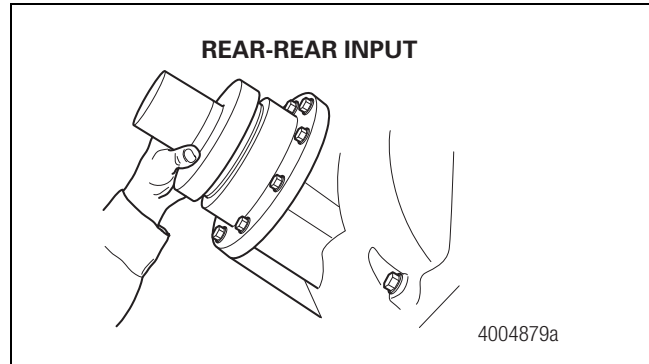

Figure 9
5. Install the rear-rear axle input seal. Hold the seal only on the outer diameter. Position the seal into the seal driver and align it with the rear-rear axle input bearing cage. Use a dead-blow hammer and the appropriate driver to install the seal into the bearing cage. Figure 9.